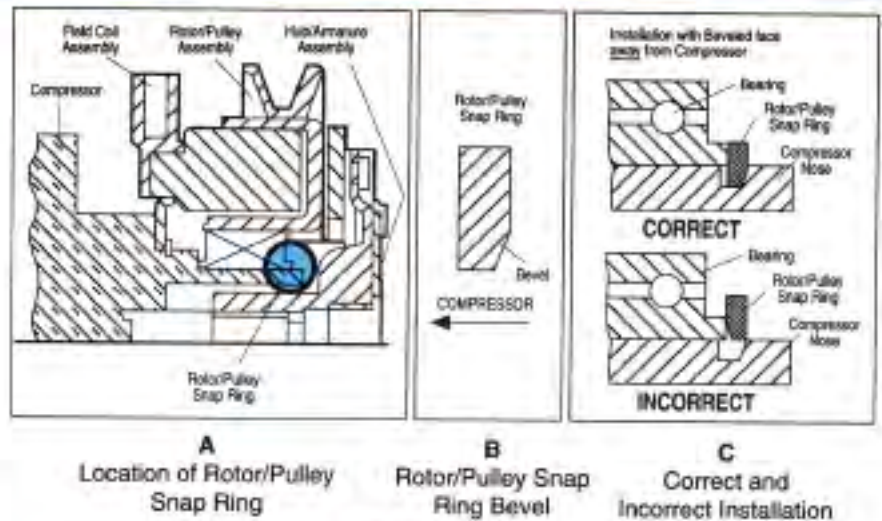

Figure 23
Remove the hub/armature. Is the rotor/pulley snap ring missing or improperly installed? See Figures 23.
- The bevel on the rotor/pulley snap ring **MUST** face away from the compressor. See Figures 23.